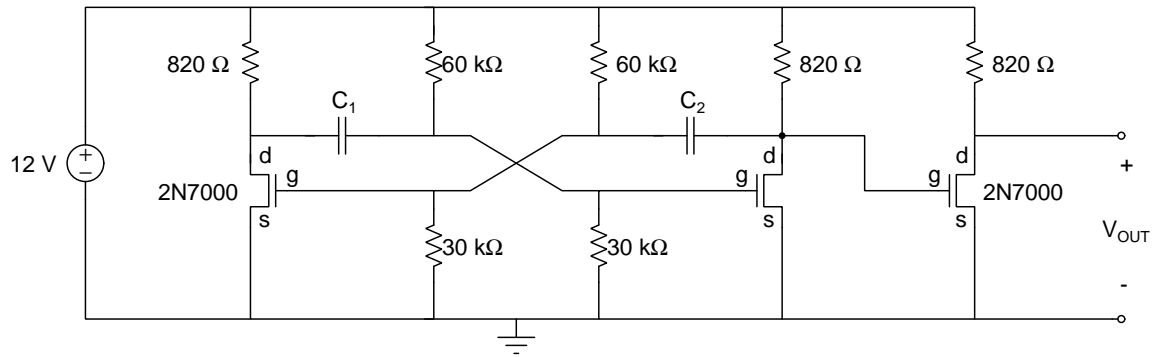

Figure 4: Astable multivibrator oscillator circuit of **Figure 2** with an added 2N7000 transistor used as an output buffer.
8. The shape of the output signal can be improved by reducing the amount of capacitance on the output node. Add a third transistor to the circuit, to act as a buffer, as shown in Figure 4. This third transistor will invert the output signal. Hence, you will need to switch capacitors C_1 and C_2 to maintain the same duty cycle at the output.